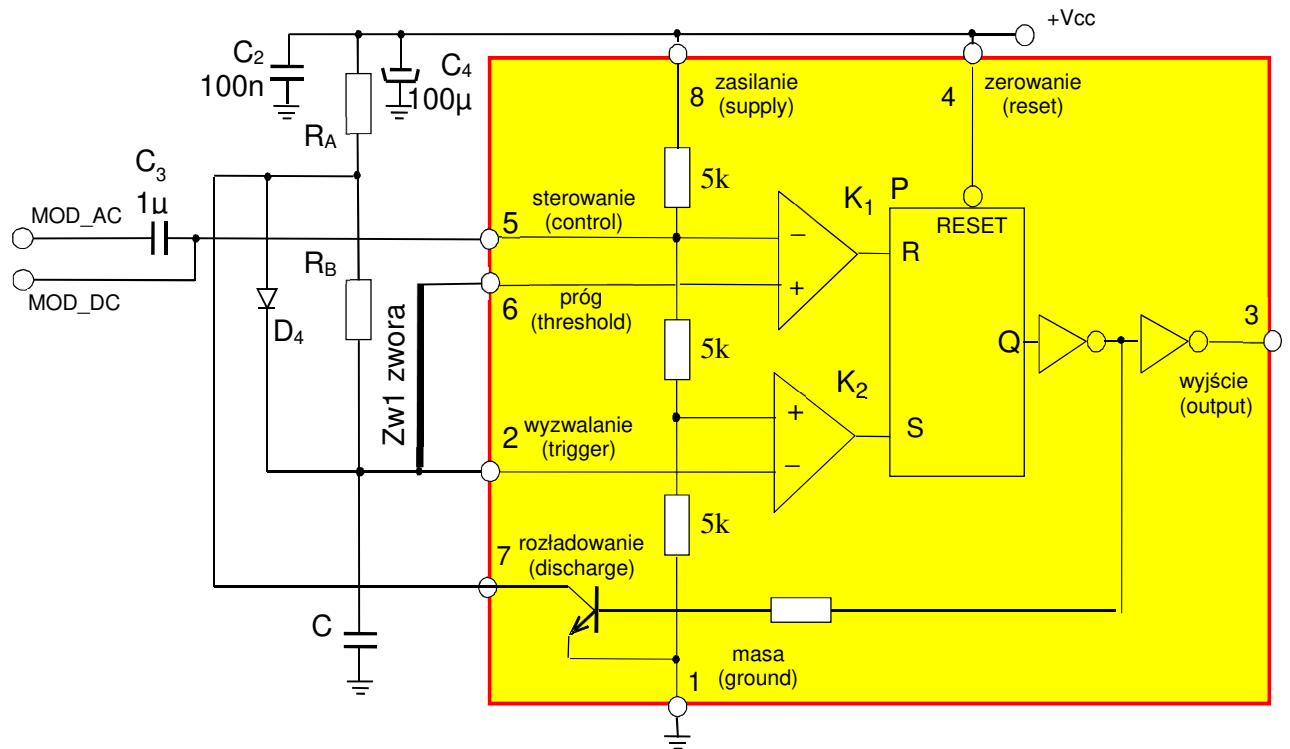
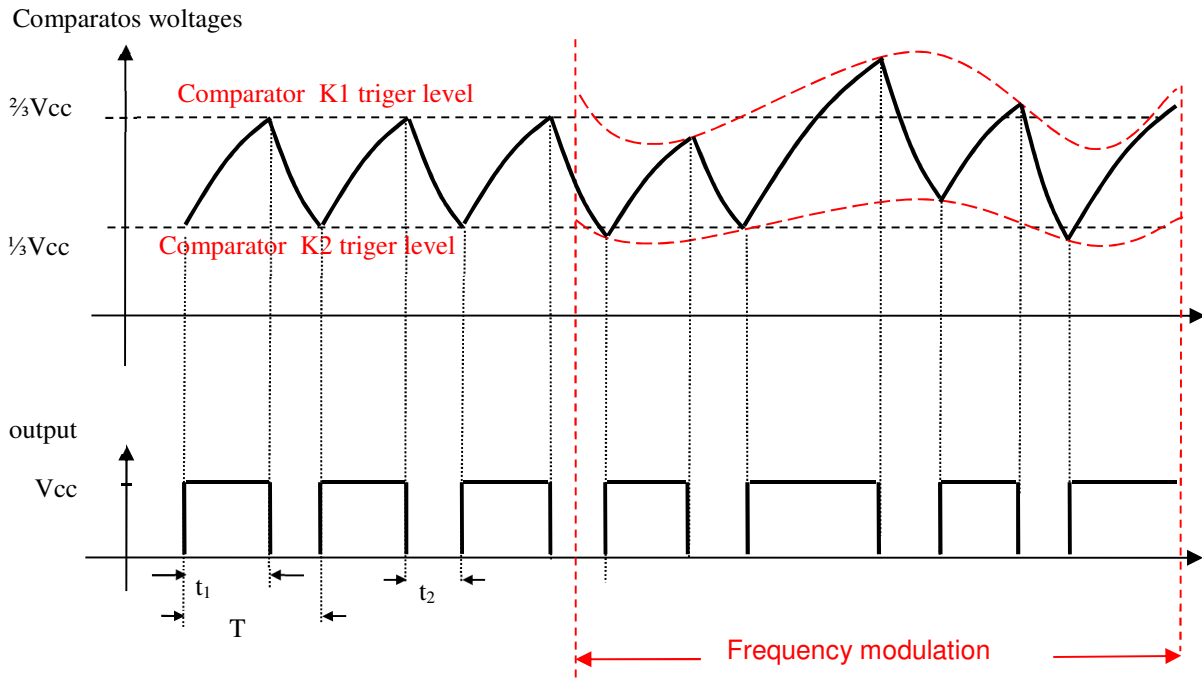

Fig.1. Astable flip-flop (multivibrator).
Fig. 3. Waveform in astable flip-flop without and with modulation.
The exercise uses the integrated circuit of the "555" type mono/astable flip-flop. It is produced by many manufacturers both in bipolar (e.g. LM555) or unipolar (e.g. MC1555) technology. Its internal structure is shown in Fig.1. The system consists of two comparators K1 and K2, an RS type trigger and output stages. Transistor T is open collector (output 7 – “discharge”) and is used as a discharge key for working capacity C.
Fig. 1 shows the schematic diagram of the 555 system working in the configuration of the astable flip-flop (multivibrator).
In the case of multivibrator, the pin (2) is connected to the capacitor C (and to the output 6). After turning on the power, the capacitor starts charging through RA + RB resistors (when the diode D4 is mounted, it is R3 and diode) as the low state (near 0V) on pin 2 has triggered the system. In consequence a high state appears at the output (3). When the voltage on capacitor C reaches the value of $2/3V_{CC} = V(5)$ - which is monitored by the comparator K1 (lead 6) - the output state (3) changes to low (near to 0V). At the same time, the internal transistor is turned on and capacitor C begins to discharge through transistor (pin 7) and resistor RB. At the same time, the voltage at the input (2) connected to capacitor C start to fall down and when it reaches the level of release of the comparator K2 ($1/3V_{CC} = 1/2V(5)$), the whole cycle is repeated. Fig. 3 shows exemplary waveforms generated in the system.
Driving the input 5, through the capacitor C3 (Fig. 1, and 2) with the voltage modulation signal VMOD_AC from an external generator (input MOD_AC), the effect of frequency modulation can be obtained. The modulating voltage changes the levels of the internal inputs of the comparators over time. As a result, the voltage to which the capacitor C is charged (and discharges) changes. When it is decreased, the charging time decreases. With increasing modulating voltage the charging time of the capacitor increases. In this way, the period of the generated waveform T and in consequence the frequency f of the output signal depends on the instantaneous value of the modulating signal. The MOD_DC input is used to lead the DC voltage to input 5 from external voltage supply (the MOD_AC input must be disconnected), which allows the multivibrator to be tuned to a certain frequency by means of DC voltage (Voltage Controlled Oscillator - VCO). Fig. 3 shows exemplary waveforms in the system when controlling the Mod_AC input.
- assemble only the elements shown in the diagram from Fig. 1
- If the system is working properly on the scope are seen waveform as in the Fig. 3. If not, turn of supply and check the circuit
- 1 Observe and print screenshots of the oscilloscope of the output waveform and the voltage on the capacitor C (as in Figure 3 - without modulation). Compare the results with those calculated and obtained in the simulation, in particular, read the threshold voltages of the comparators.
- 3 Connect a function generator to the MOD_AC input of the tested system (use signal shape: triangular or sinusoidal, peak-to-peak voltage about $\frac{1}{4}$ of the supply voltage, frequency 10 to 20 times lower than the working frequency of the system). If everything works correctly, the waveforms shown in Figure 3 (for modulation) can be observed on the oscilloscope. If the waveforms are not synchronized, the image on the digital oscilloscope can be stopped. The screenshot should be printed.